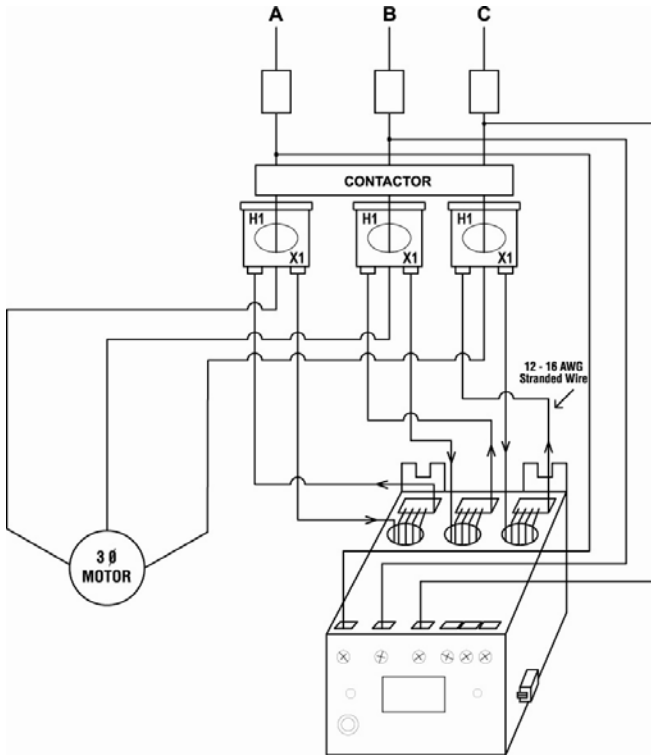

Figure 3: Typical Wiring Using External CTs1
c) For amperages greater than 90 amps, external CTs (current transformers) are required. SymCom recommends using CTs with terminal connections for easier installation. All CT secondaries must make five passes through the round holes on the MotorSaver® Plus. See Figure 3 for a typical wiring diagram using external CTs.